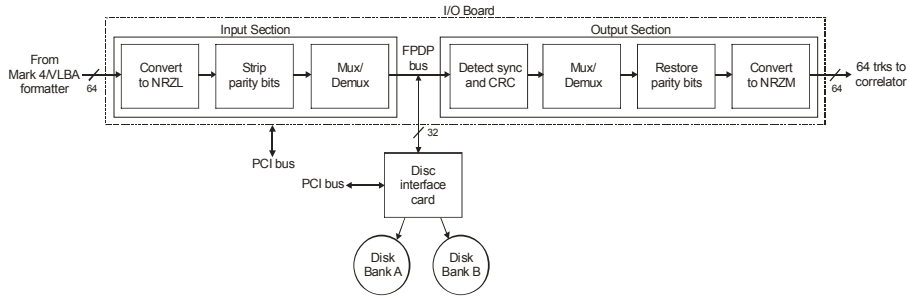

Figure 7: Diagram of 'mark4' and 'vlba' data modes
3. ‘mark4’ – (parity-stripped Mark4-format data; see Figure 7) data from a Mark 4 formatter are parity-stripped before being placed on the 32-bit FPDP bus. Data coming off the FPDP bus (in either ‘bypass’ or ‘playback’ mode) have parity restored before being output. There are four ‘mark4’ submodes, corresponding to different numbers of active Mark 4 tracks:
4. ‘vlba’ – (parity-stripped VLBA-format data; see Figure 7) same as ‘mark4’ mode except data are in VLBA format. There are four corresponding ‘vlba’ submodes, directly corresponding to their ‘mark4’ analogs:
In the 'mark4' and 'vlba' data modes, there is active massaging of the data by the Input Section before the data go onto the FPDP bus and active massaging of the data by the Output Section after the data are retrieved from the FPDP bus. In particular, as is shown in Figure 7, the NRZM coding on the formatter output is removed and track-parity bits are stripped before the data are recorded on disk. On playback, the parity bits are restored and coding is restored to NRZM.